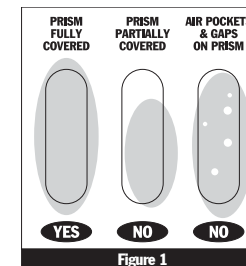

Figure 1
- 3 Gently close the daylight plate over the prism. The liquid standard should spread as a thin, even layer in between the daylight plate and the prism. By looking through the daylight plate, ensure that the liquid standard covers the ENTIRE surface of the prism. If there are bubbles and gaps or if the liquid standard is only on one portion of the prism, the liquid standard must be reapplied (Figure 1). Inaccurate calibrations will result if the prism is not covered correctly.
- 2 Gently close the daylight plate over the prism. The sample solution should spread as a thin, even layer in between the daylight plate and the prism. By looking through the daylight plate, ensure that the sample solution covers the ENTIRE surface of the prism. If there are bubbles and gaps or if the sample is only on one portion of the prism, the sample solution must be reapplied (Figure 1). Inaccurate readings will result if the prism is not covered correctly.